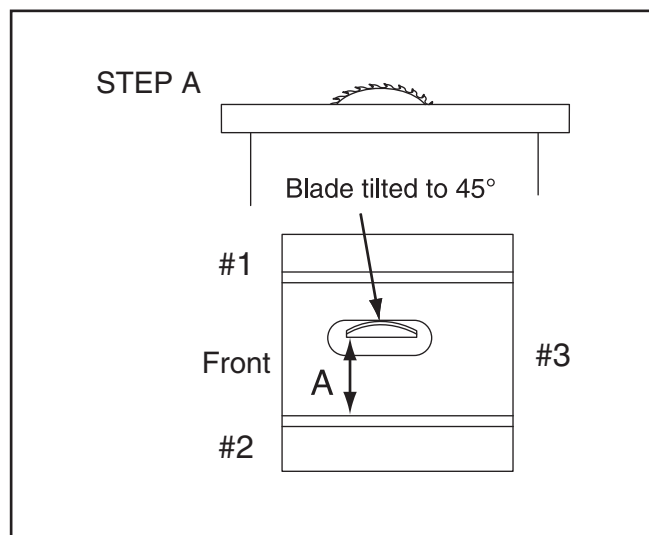

Figure 129. Shim procedure diagram A.
10. Refer to **Figures 129–130** for shim placement. If the distance of A is shorter than B, shim(s) will need to be placed under corners #1 and #2. If the distance of B is shorter than A, shim(s) will need to be placed under corner #3. Very thin shim stock works well.